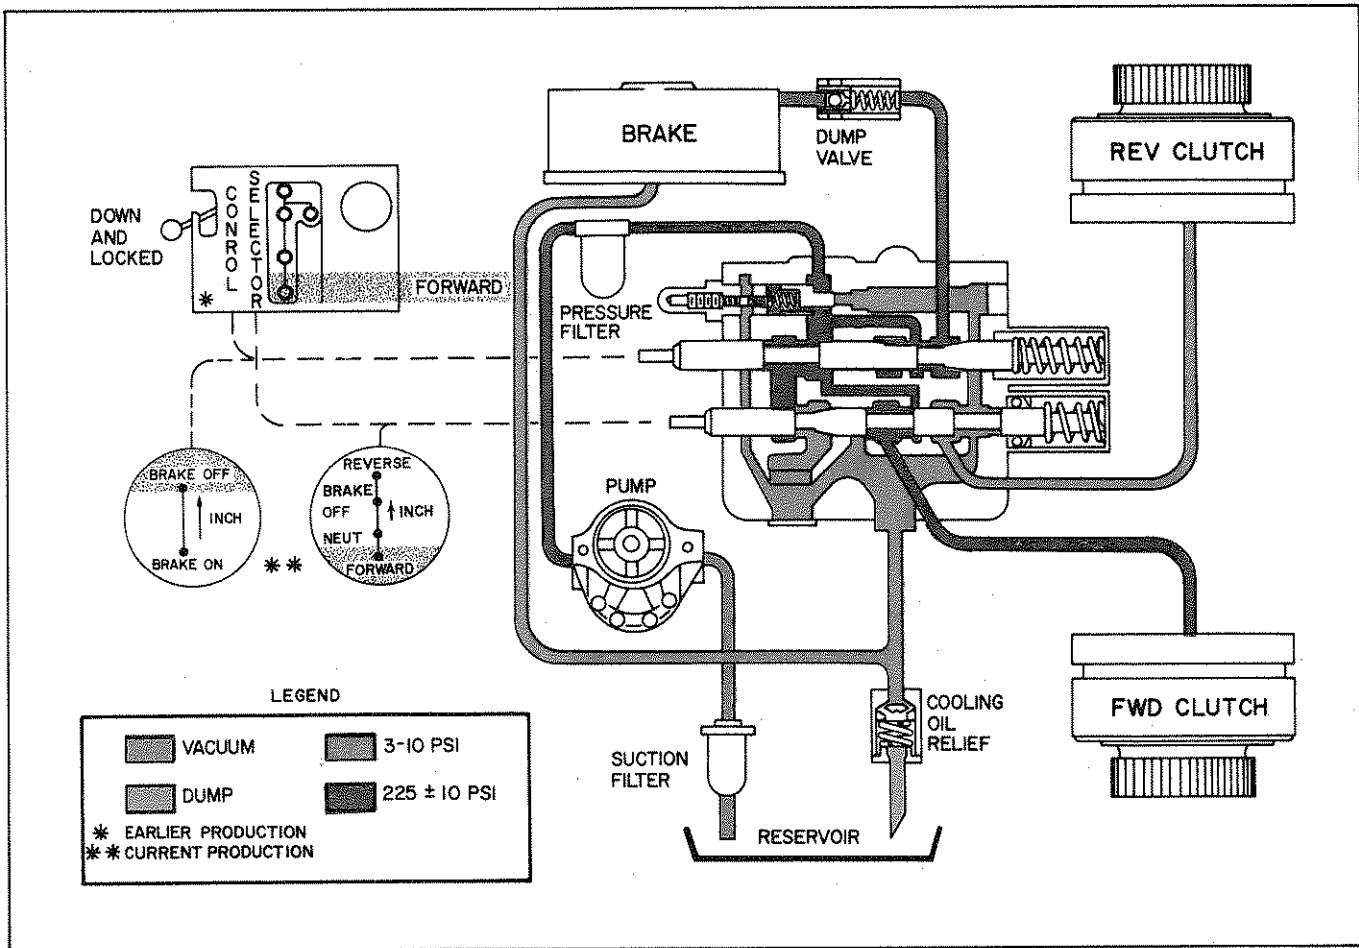

Figure 1-12. Hydraulic Flow Diagram, Forward, Normal Operation
1-25. HYDRAULIC SYSTEM IN FORWARD, NORMAL OPERATION. (See Figure 1-12.) On Earlier Production Handling Gear, the system is placed in FORWARD, Normal Operation by: (1) Moving the Control Lever Down and locking it in place and (2) Shifting the Selector Lever to the FORWARD position. On the Current Production Handling Gear, this is accomplished by: (1) Locking the Inching Lever in the BRAKE OFF position and (2) Shifting the Selector Lever to the NEUTRAL position. When the Control Lever is locked in the Down position or the Inching Lever is locked in the BRAKE OFF position, the inching spool is pulled to its extreme Out position. With the spools in these positions, the hydraulic pump draws oil from the reservoir through the suction filter and delivers it through the pressure filter to the control valve inlet port. Oil will then enter the con-